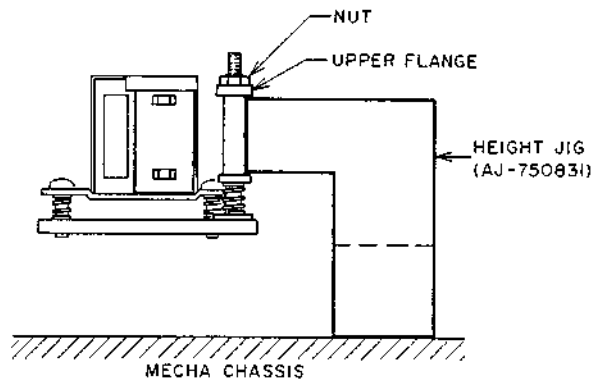

Fig. 7-1
(Refer to Fig. 7-1)
- 2) Set the Height Jig (AJ-750831) on the Mechanism chassis as shown in Fig. 7-1 and check the height of the lower face of the upper flange.